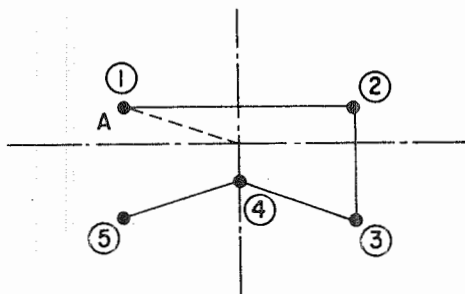
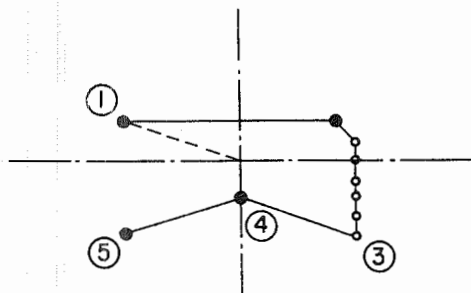

Fig. 2
Fig. 3
Step 4 Press the and keys until the needle reaches position A shown in Fig. 2.
Step 7 Using the and keys, move the needle to confirm that the position of the pattern has moved as illustrated in Fig. 2.
Step 8 Press the and keys until the needle reaches position ② shown in the figure.
Step 10 Now the LEDs will indicate , which means that the Linear stitching from point ② to point ③ will be changed to point stitching. Then press the key.
Step 12 Move the needle using the **Forward** and **Backward** keys, and confirm that the needle entry point has been erased as illustrated in Fig. 3.